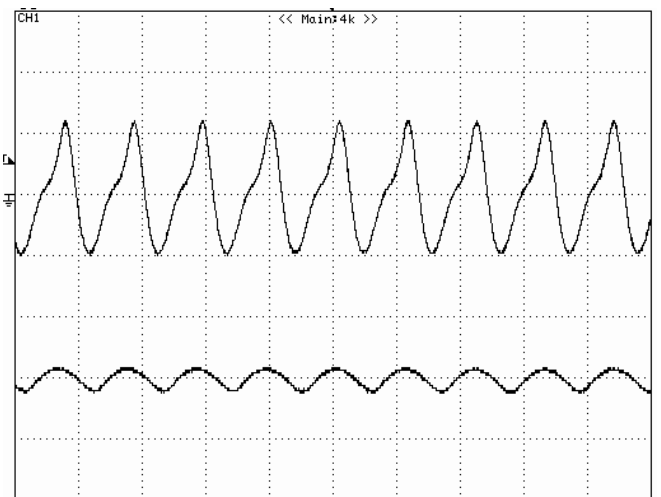

**Figure 10:** Test set-up diagram showing measurement points for Input Terminal Ripple Current and Input Reflected Ripple Current.
**Figure 11:** Top trace: Input Terminal Ripple Current,  $i_c$ , at full rated output current and nominal input voltage with  $12\mu H$  source impedance and  $100\mu F$  electrolytic capacitor (2A/div, 2us/div), Setup is shown in Figure 10 top picture.
Bottom trace: Input Terminal Ripple Current,  $i_c$ , at full rated output current and nominal input voltage with  $12\mu H$  source impedance and  $100\mu F$  electrolytic capacitor (2A/div, 2us/div), Setup is shown in Figure 10 bottom picture, there is one 1uH inductor in front of module input side.
**Figure 12:** Input reflected ripple current,  $i_s$ , through a  $12\mu\text{H}$  source inductor at nominal input voltage and rated load current ( $20\text{ mA/div}$ ,  $2\mu\text{s/div}$ ). Setup is shown in Figure 10 top picture.